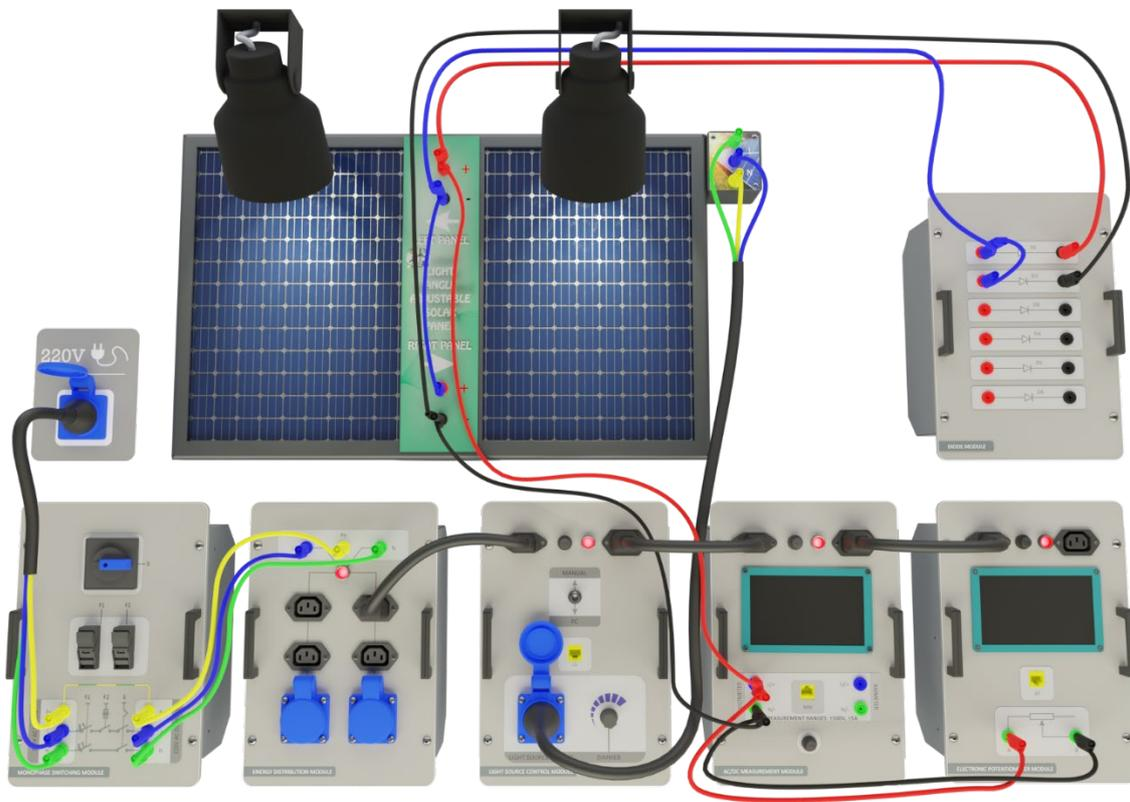

Figure-46. Installation Image of Examination of Effect of Bypass Diode in Photovoltaic Panels
1. Set up the connection as specified in Figure-46. Ensure a constant level of light in the laboratory by creating an average scenario. Any alterations to the positions of the lamps or curtains will have an impact on the experimental outcomes.